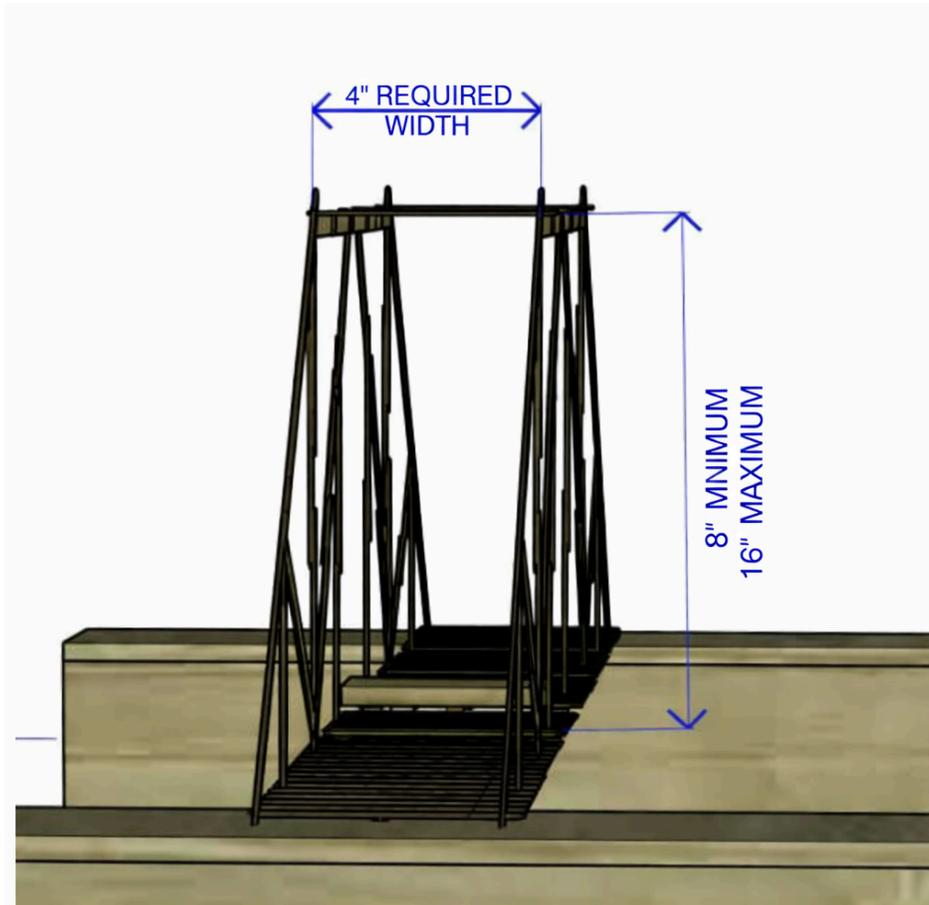

Figure 5 - Roadway Clearance and Height Requirements (not to scale)
- Bridge height shall not exceed 16 inches. Refer to Figure 5 below.
- Bridge crossing must have a minimum 4-inch width and a minimum 7-inch height clearance throughout to accommodate bridge use. Refer to Figure 5 below.